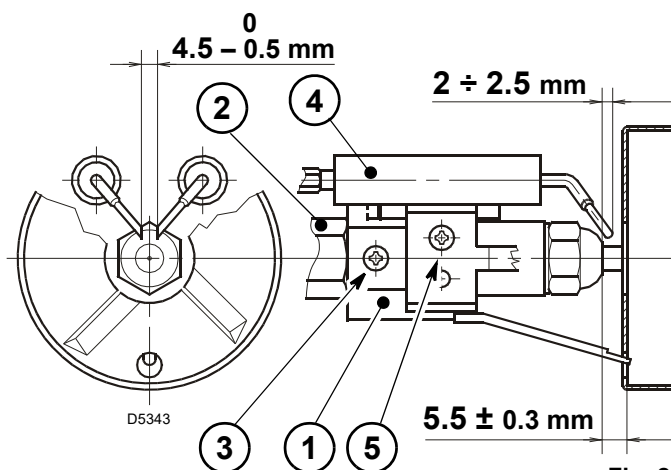

Fig. 21
The measures in Fig. 21 must be complied with.
- Place the diffuser disc holder assembly 1)(Fig. 21) on nozzle holder 2)(Fig. 21) and secure with screw 3)(Fig. 21). For any adjustment of the electrode assembly 4) loosen the screw 5)(Fig. 21).
- Remove the cables 4) from the electrodes, loosen the screw 3)(Fig. 21) and remove the diffuser disc holder assembly 5) from the nozzle holder assembly 7).